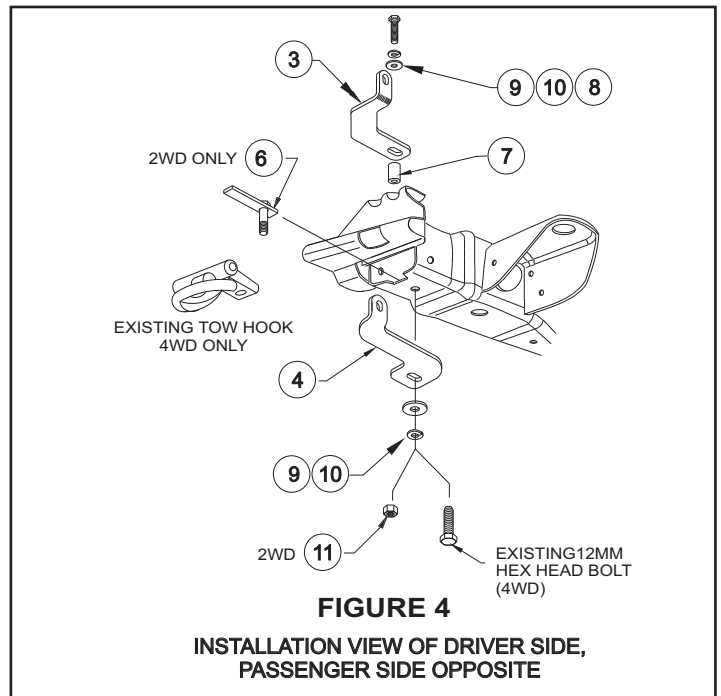

FIGURE 4
- STEP 5. Remove both 12mm factory bumper bolts from top of frame (located behind top side of bumper) and two 6mm bolts in radiator support frame located just above bumper bolts. Attach top brackets as shown. Leave loose. **SEE FIGURE 4. NOTE:** The narrow slotted end of support brace is installed beneath cross bar.
- STEP 6. **4x4 models:** Attach bottom brackets by removing 12mm bolts from bottom side of frame and reinstalling the 12mm bolts as shown. Leave loose. **SEE FIGURE 4.**
4x2 models: Attach bottom brackets using the bolt plate and 1/2-13 hex nut provided. Leave loose. **SEE FIGURE 4.**